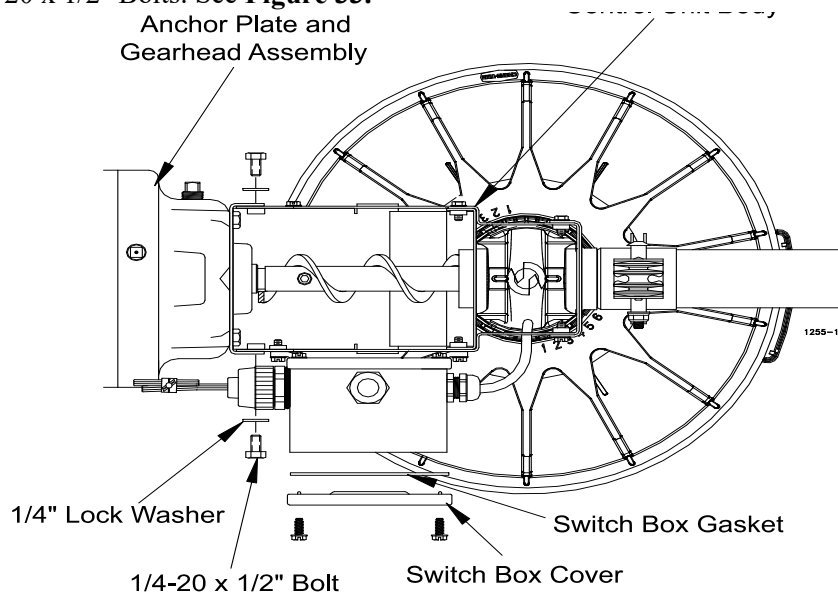

Figure 33. Attaching the Anchor Plate and Gearhead Assembly to the Control Unit Body
7. Attach the Anchor Plate and Gearhead Assembly to the Control Unit Body using the included 1/4" Lock Washers and 1/4-20 x 1/2" Bolts. See **Figure 33**.